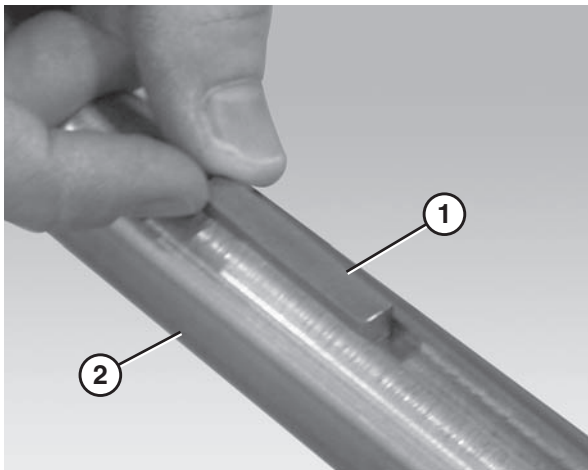

Figure 56
- Remove the drive spindle key (**Figure 56, item 1**) from the drive spindle keyway (**Figure 56, item 2**).